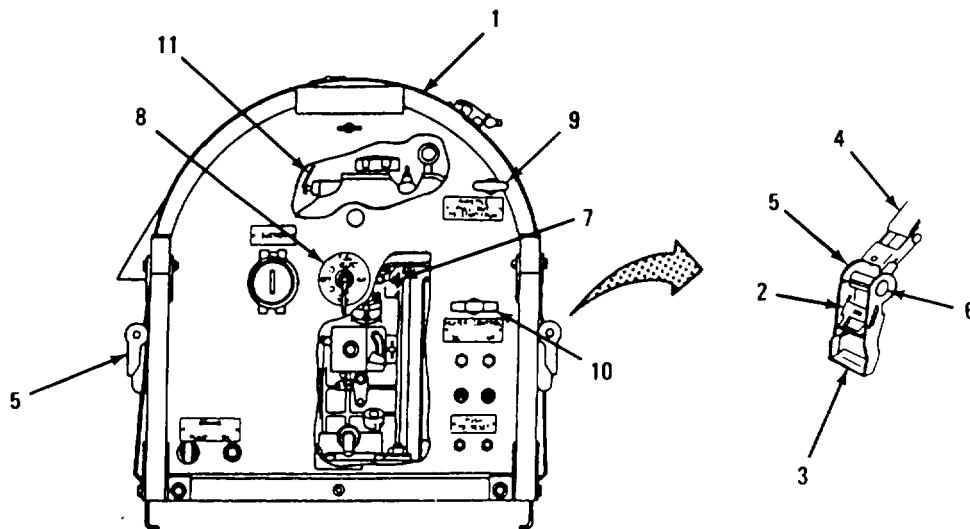

Figure 2-6. Starting Procedures
- a. Starting. (Refer to Figure 2-6.)
- (8) Hold recoil starting handle (10) firmly and pull out the handle briskly. Engine will start and go to maximum operating speed. If engine does not start on first pull, repeat steps (6), (7), and (8).
- (9) After 3 minutes, the pump unit will start pumping fluid.
- (10) Install sound enclosure cover.
b. Adjusting Speed. (Refer to Figure 2-6).
c. Stopping. (Refer to Figure 2-6).